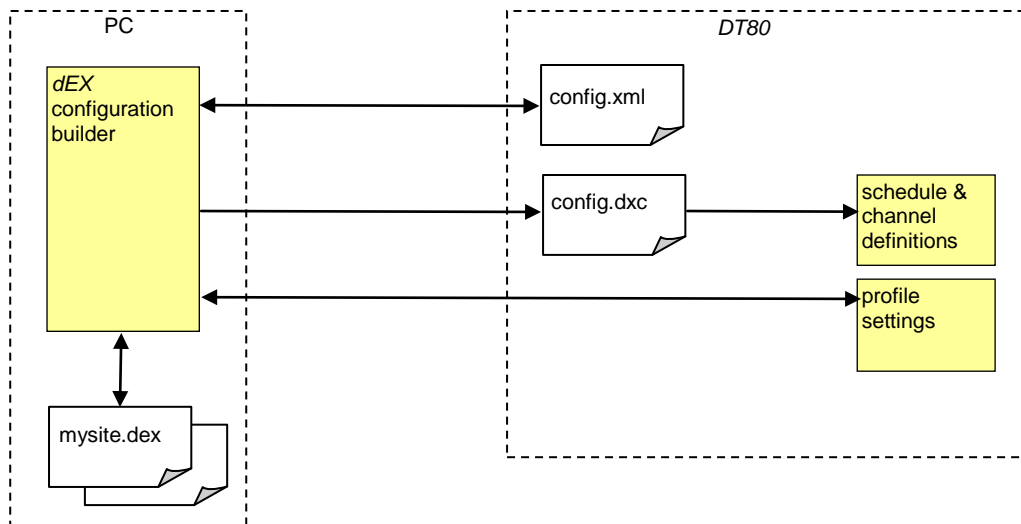

Figure 41: How dEX stores configuration information
- **Range** allows you to specify an explicit date/time range. Clicking on the start or end date fields will display a calendar control, as shown in *Figure 41* below. Use the left and right arrow buttons to select the month, then click on the required day. The currently selected date is highlighted in blue, while today's date is shown in grey. Click outside the calendar control to dismiss it without changing the selected date.